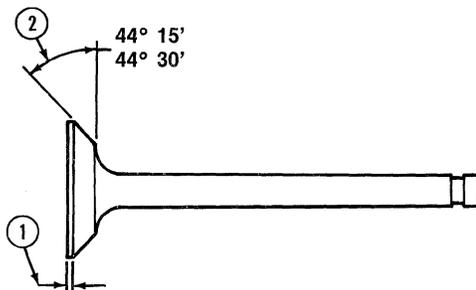

Figure 14
8. Examine the valve face and, if pitted, replace or reface by grinding to the dimension shown in Figure 14. Before refacing the valve, be sure the valve stem is not bent or worn and check the valve seat run-out, measured at right-angles to the seat,